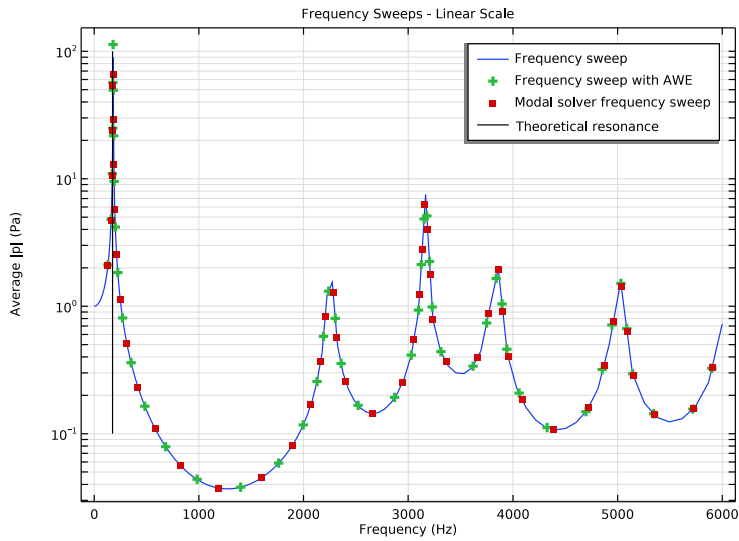
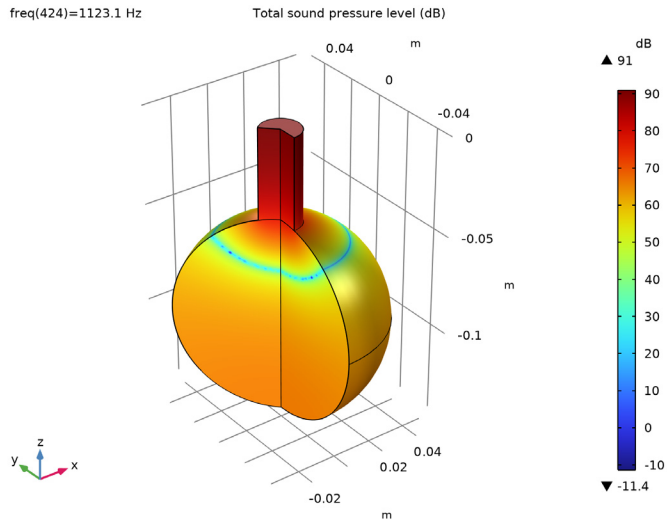

Figure 5: Same frequency sweep as in Figure 4 here shown on a linear frequency scale to emphasize the higher frequencies.
Figure 6: Sound pressure level computed as a default output from the simulations, here shown for $f = 1123.1$ Hz.
Comparing the different solvers, it is noted that they all produce the same response for the frequency sweep; see Figure 4 and Figure 5 on logarithmic and linear scales, respectively. The sound pressure level at 1123.1 Hz is depicted in Figure 6. The AWE and modal based frequency sweep methods are quite useful to speed up the running times of large models with a large number of frequencies requested. Due to the small number of degrees of freedom in this model, it is not possible to measure any speed-up in CPU time. See the next section for details.
- Not all resonance peaks may be captured with the current frequency resolution used in this tutorial, because it gets coarser as the frequency increases. For example, there is a narrow resonance peak at about 4.9 kHz that lies within the interval $[f_{\min}, f_{\max}]$, but not visible in Figure 4 or Figure 5. However, it is detected by the Eigenvalue solver used in the last study. Another indication is the warning message produced by the Adaptive Frequency Sweep with AWE solver which suggests that the frequency sampling should be refined.